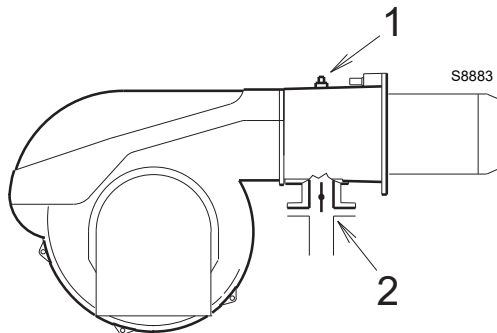

Fig. 27
Gas pressure measured at test point 1)(Fig. 27), with:
- subtract the combustion chamber pressure from the gas pressure measured at test point 1)(Fig. 27);
$$\begin{aligned} \text{Gas pressure at test point 1)(Fig. 27)} &= 30 \text{ mbar} \\ \text{Pressure in combustion chamber} &= 3 \text{ mbar} \\ 30 - 3 &= 27 \text{ mbar} \end{aligned}$$
To calculate the required gas pressure at test point 1) (Fig. 27), set the maximum output required from the burner operation:
Read, on the right, the pressure at test point 1)(Fig. 27).
pressure required at test point 1)(Fig. 27).